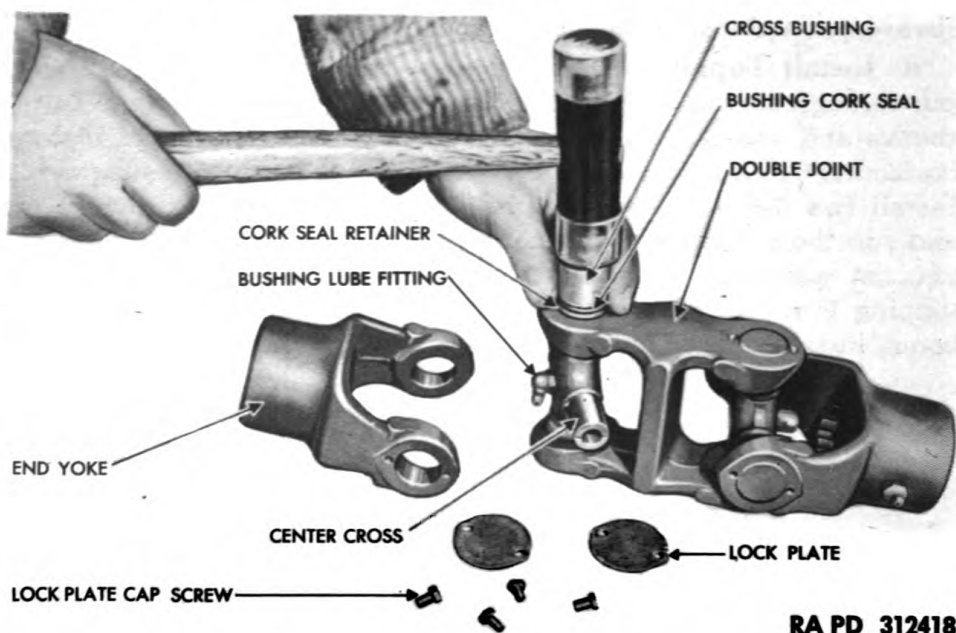

Figure 23 — Installing Double Joint Bushing
c. **Assemble** (fig. 23). Tipping the center cross, place it in position in the end yoke lugs. Install new cork seals on ends of cross with cup side up, place new cork retainers in retainer cups, set bearings in position on center cross and, using the soft hammer, drive retainer, cork seal, and bushing assembly onto cross. Repeat this operation until all the bushings, retainers, and seals are installed and double joint assembly is completely assembled. Install the lock plates and lock plate cap screws. Lubricate the double joint bushing assemblies through the lubricating fitting in the center of the universal joint cross.